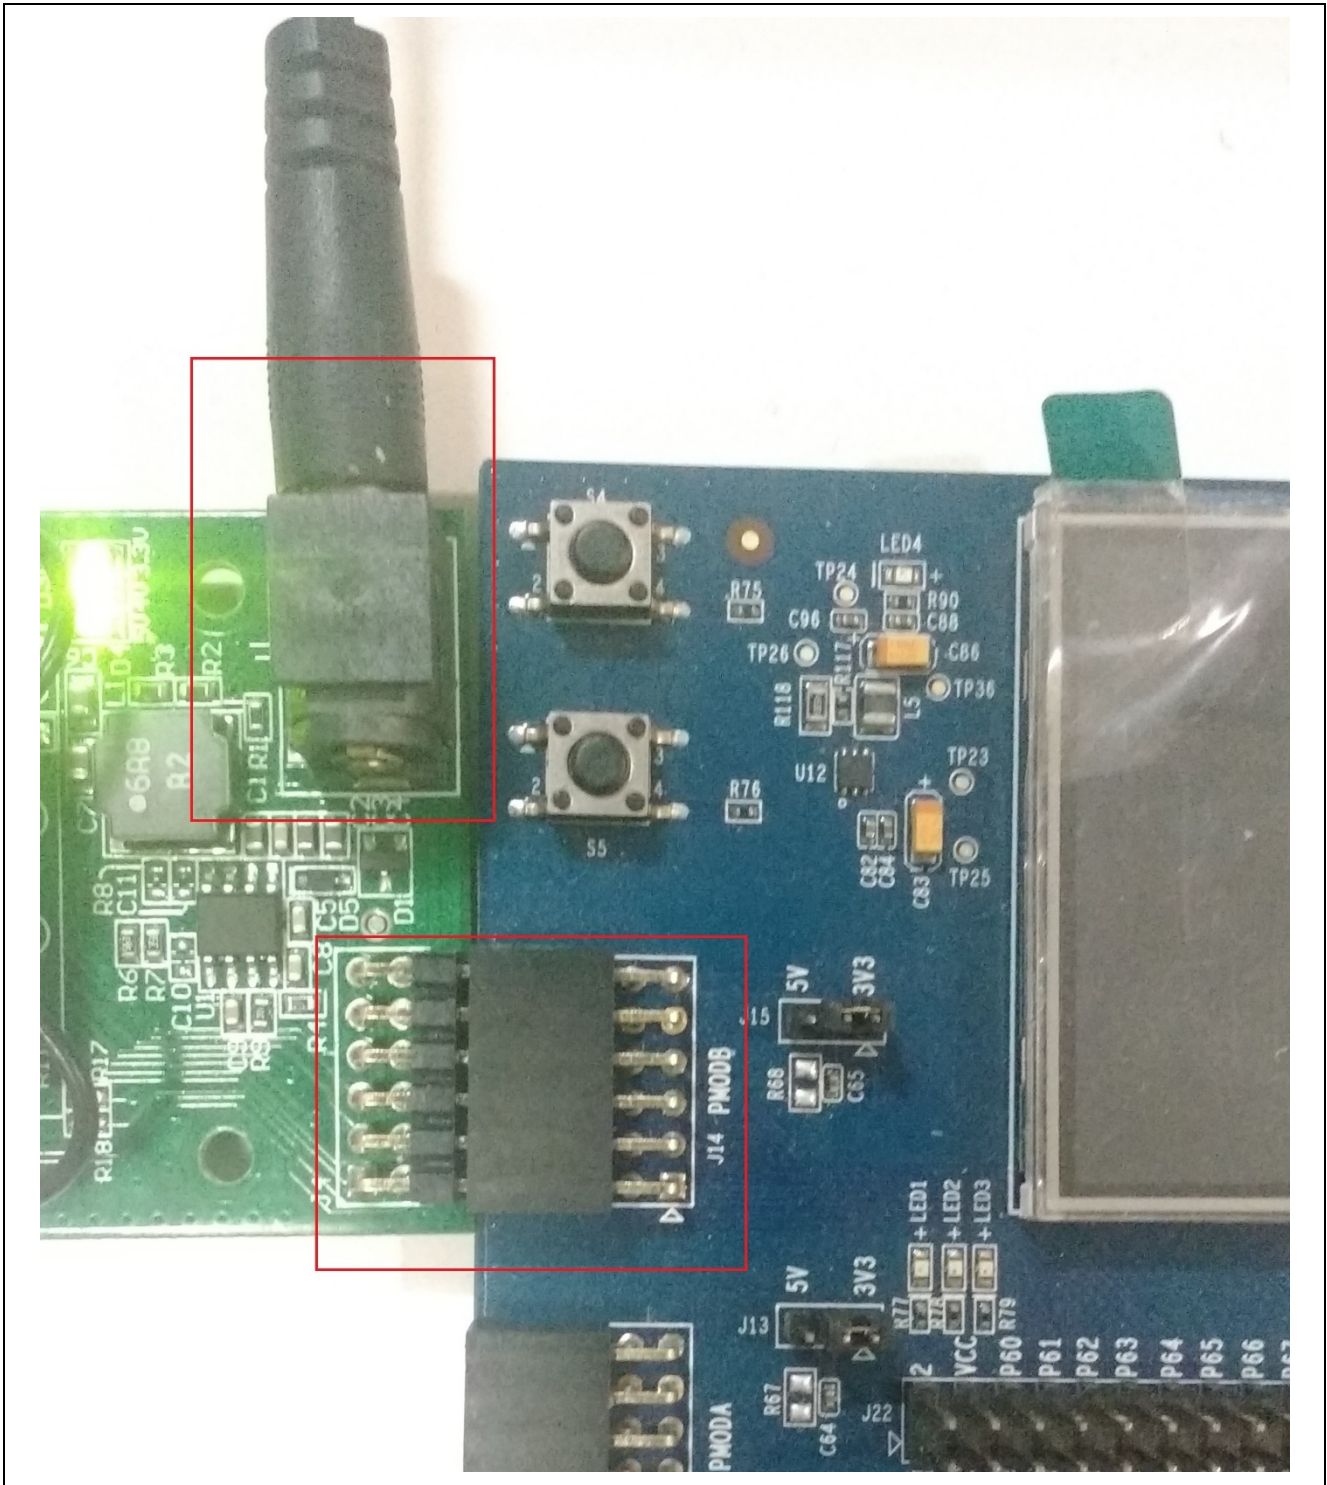

Figure 19 PMOD Connections
- 7. Connect the Cellular module to the PmodB(J14). Also connect the external supply to the cellular module as shown in the Figure 19.